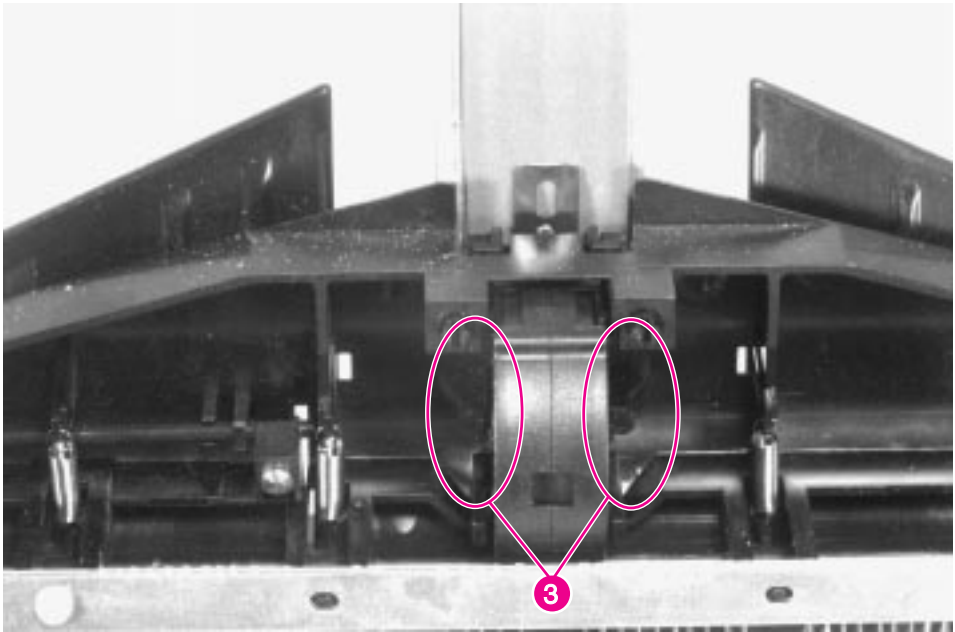

Figure 6-70 Mailbox with Stapler, Metallic Tape Housing
- 5 Remove the tape housing by releasing the retaining tabs (figure 6-70, callout 3) and rotating it upward.